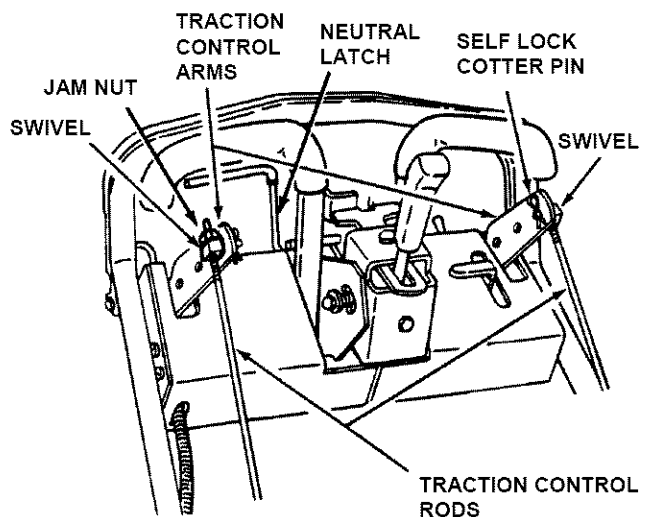

FIGURE 3.7
- STEP 2:** Place both Traction Levers in the Neutral position and engage Neutral Latch. See Figure 3.7.
STEP 4: Disconnect the swivel from the right and left traction control arms and loosen swivel jam nuts. See Figure 3.7.